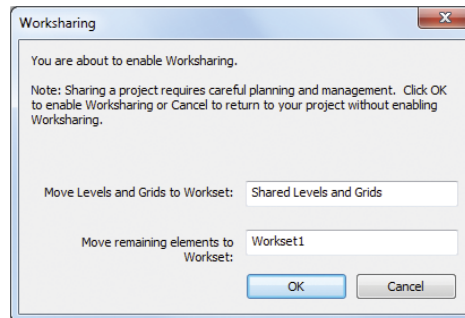

FIGURE 10.2 The initial Worksharing dialog box
1. With the example file now open, navigate to the Collaborate tab and select the Worksets tool. The initial Worksharing dialog box (Figure 10.2) appears, outlining the worksets that project elements will be assigned to.